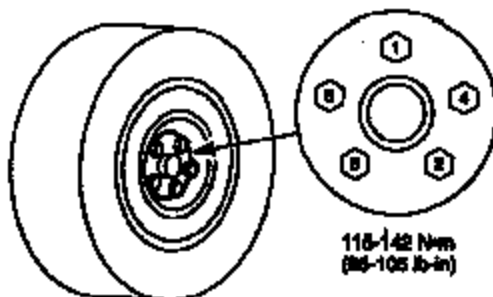

FIGURE 26
5. Install the center cap (refer to Figure 26).